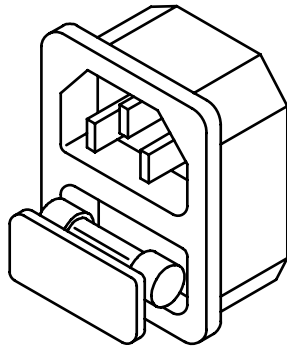

Figure 2-2 Fuse Holder in AC Line Input Connector
5. The line fuse is located below the AC line receptacle see Fig 2-2. With the power cord removed, use a small screwdriver to extract the fuse holder from under the AC socket. Replace the fuse with the appropriate type as indicated in Table 1-1. These fuses are slow-blow fuses.